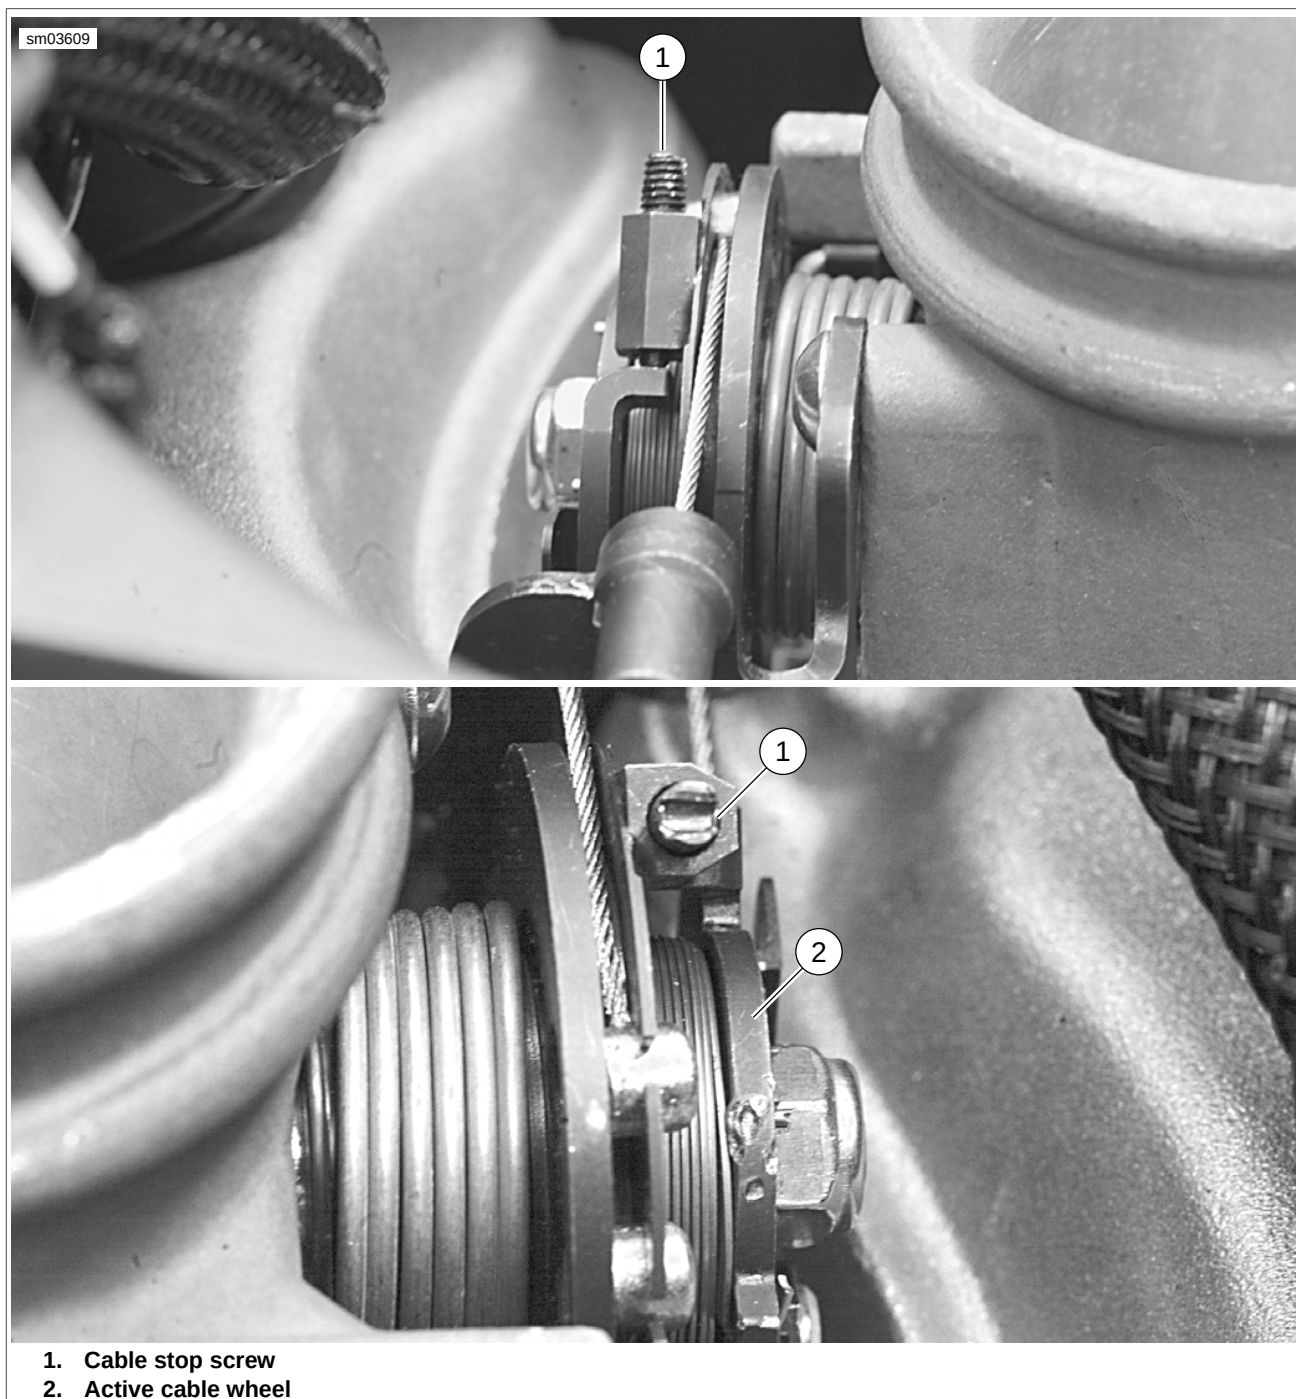

Figure E-3. Active Intake Cable Stop Screw
7. Remove baseplate (10). See 4.2 AIR CLEANER ASSEMBLY
8. See Figure E-3. If the active cable needs to be replaced disconnect from cable wheel (2).